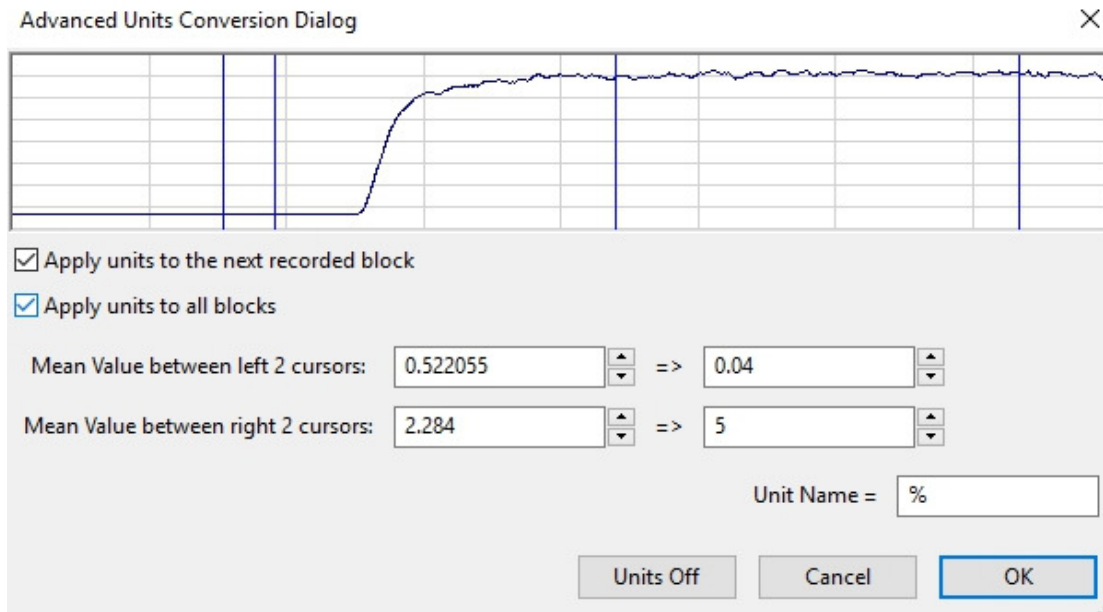

Figure AMe-5: The Advanced Units Conversion dialogue window with the voltages between the cursors set to equal the concentrations used in calibration.
4. Convert the voltages at the positions of the cursors to concentrations using the Advanced Units Conversion dialogue window (Figure AMe-5).